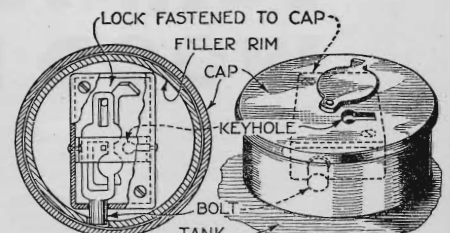

Fig. 5. This fuel tank cap lock is an ordinary small cabinet door lock riveted or screwed in place under cap.
**G**ASOLINE thieves will be foiled by the fuel tank cap lock shown in Fig. 5. This is an ordinary small cabinet door lock which should be riveted, or screwed and riveted, to the under side of the tank cap. Make sure that the lock does not project far enough to interfere with placing the cap on the tank. Mark where the bolt of the lock comes when the cap is tight down and cut a slot in the inside of the opening into which it may drop when the key is turned.